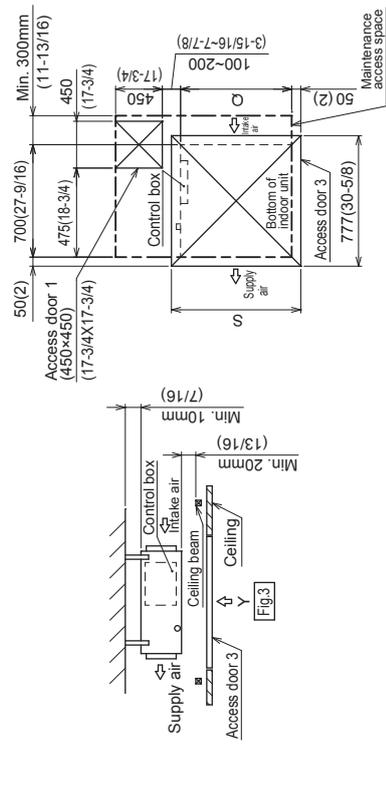

Fig.4 (Viewed from the direction of the arrow Y)
- Create access door 1 diagonally below the control box and access door 3 below the unit as shown in Fig.4.